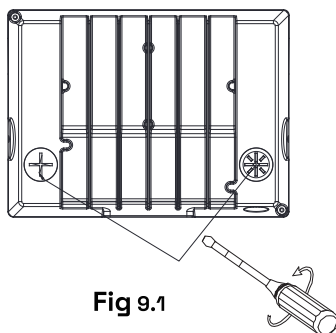

Fig 9.1
Step 1: Open the metal plug and plastic plug counterclockwise with a screwdriver Figure 9.1